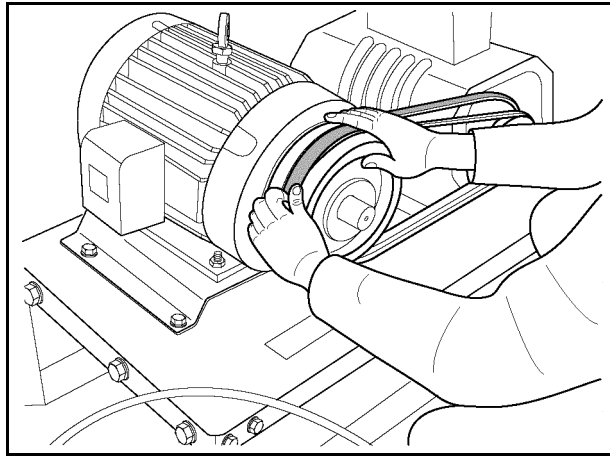
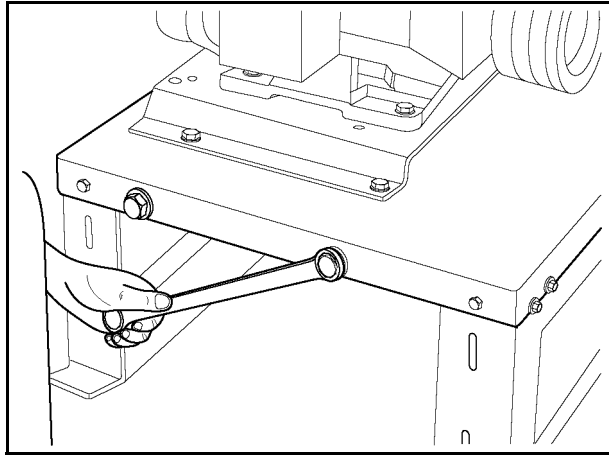

Figure 7D
Figure 7E
5. See Figure 7D Place the matching set of V-belts on the pulleys. Tighten the belts by evenly turning the cap screws clockwise. Belts should have 3/8" deflection at ten pounds pressure per belt. (See Figure 7E).